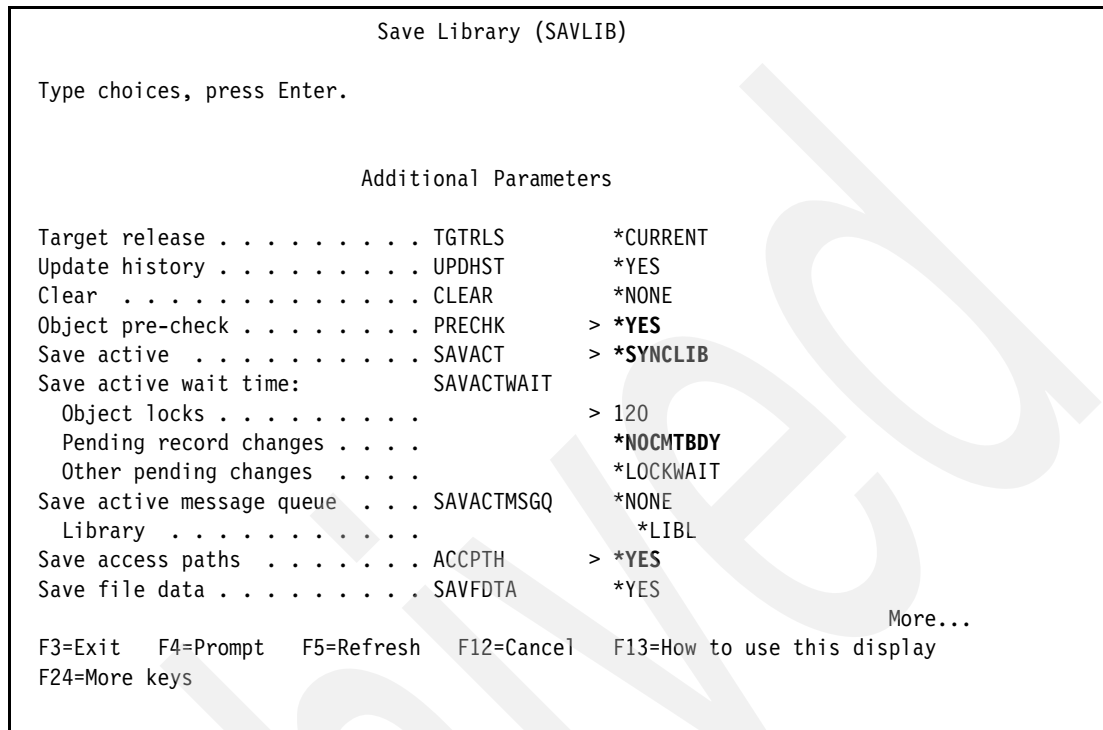

Figure 23-9 SAVLIB: Rapid Checkpoint Save-While-Active (Part 2 of 3)
- Specify ***YES** for Object pre-check, ***SYNCLIB** for Save active, and ***NOCMTBDY** for saving objects without requiring transactions with pending record changes to reach a commitment boundary as Figure 23-9 shows.